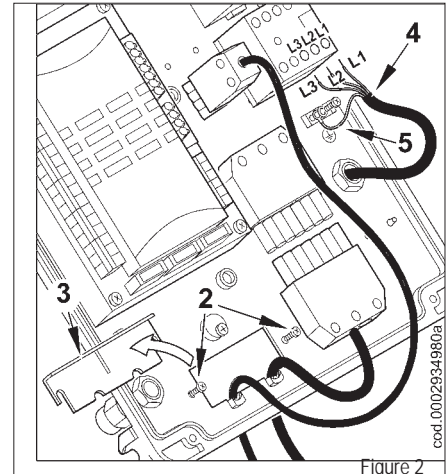

Figure 2
- 2) Loosen the screws (2) and, after removing the cable float plate (3), pass the two 7 and 4 pole plugs through the hole (see figure 2). Connect the power supply cables (4) to the contactor, fix the ground cable (5) and tighten its cable holder.